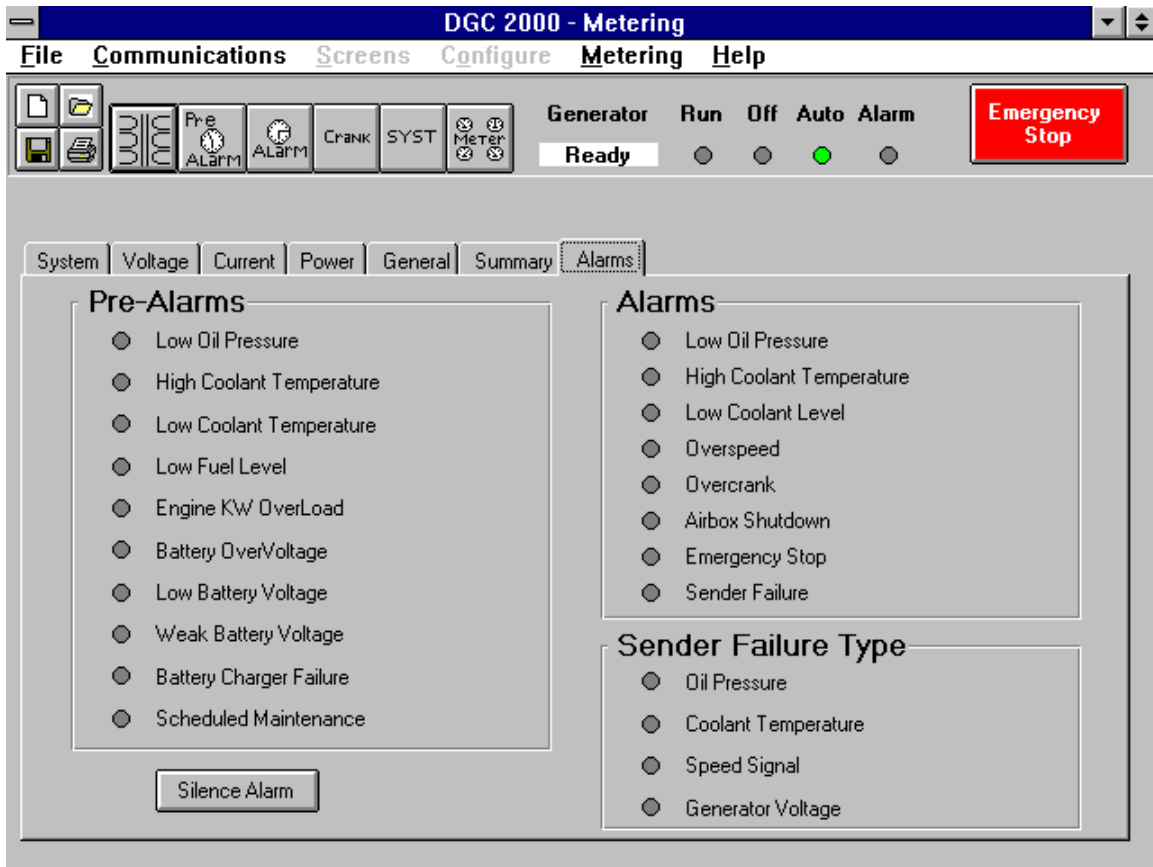

Figure 7-19. Metering - Alarms Screen
*Alarms.* The pre-alarms and alarms are all shown on one screen (refer to Figure 7-19). When a pre-alarm becomes active the LED next to the name of the pre-alarm will be green. A description of the alarm will be shown on top of the screen and the computer speaker will begin to beep. The label on top of the screen will contain the same alarm until it goes away and then it will show the next pre-alarm going down the list that is active. When an alarm becomes active the LED next to the name of the alarm will be red. The screen will jump to the alarm tab and the computer speaker will begin to beep. If the alarm type is a Sender Failure the type of sender that failed will be indicated in the Sender Failure type area.